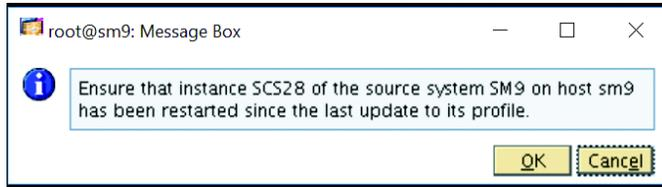

Figure 87 Ensure Old SCS Has Been Restarted
11. Halfway through the operation, you will be prompted to ensure that the restart of the SCS instance has occurred. Once it has been restarted, select OK to continue (see Figure 87).